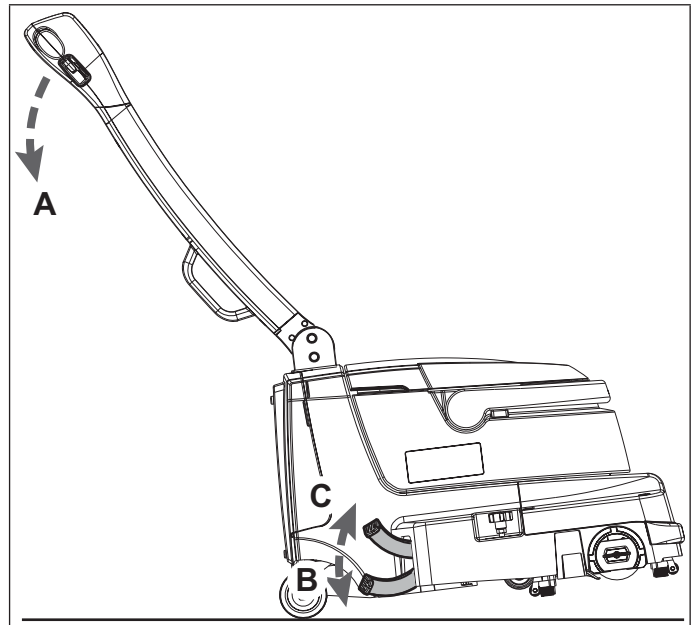

Figure 1
*In order to facilitate the use of the park pedal (10), slightly lift the front section of the machine by gaining leverage with your hands on the handlebar (A, Fig. 1).*
1. Putting your hands on the handlebar (A), slightly lift the front section of the machine, then press the pedal (B, Fig. 1).